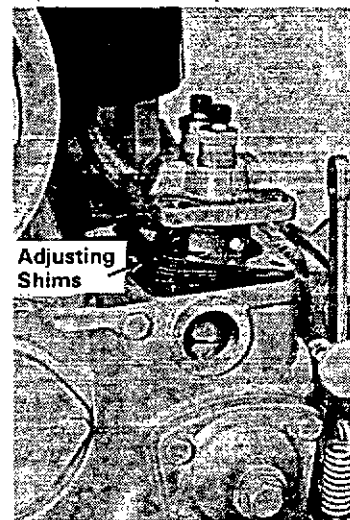

Figure 11
15. Pump timing is adjusted by the use of shims placed under the pump mounting flange. Raising the pump (by adding shims) retards injection timing, while lowering the pump (by removing shims) will advance injection timing. A .1 mm change in pump height will alter timing by 1°. Shims are available in .2 mm and .3 mm thicknesses. See Figure 11. For additional installation dimension information, see item #5.2.34 in Section 5.